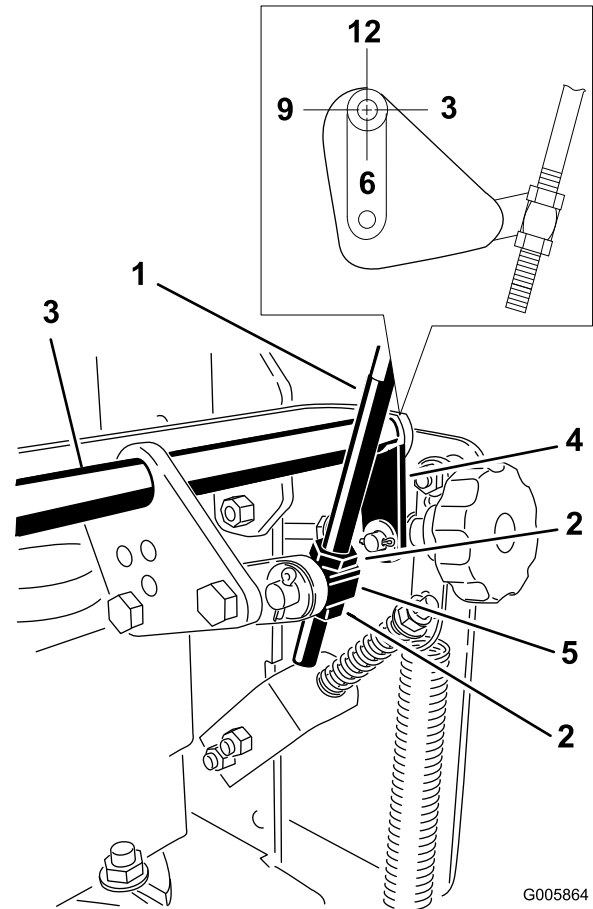

Figure 45
5. Check the orientation of the tabs on the ends of the speed control crank. These tabs should be pointing straight down at the 6 o'clock position approximately (Figure 45).
6. If adjustment is needed, loosen the nuts on both sides of the swivel on the speed control rod (Figure 45).
7. Adjust the swivel until the tabs are at the 6 o'clock position (Figure 45).
8. Tighten the nuts on both sides of the swivel (Figure 45).
11. If needed, adjust the swivel on the speed control rod to center the shift lever travel (Figure 45).